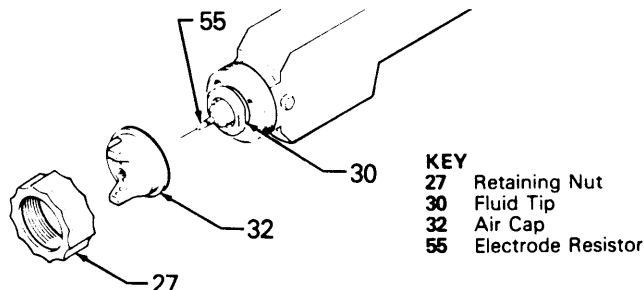

Fig 5
5. Remove the air cap retaining nut (27) and air cap (32). See Fig 5. With the wrench (83b) supplied, remove the fluid tip (30).
7. Screw the fluid tip back into the gun. Tighten the tip securely with the wrench (83b). Torque the fluid tip to 1.1 to 1.4 N·m (10 to 12 in-lb). See Fig 5.